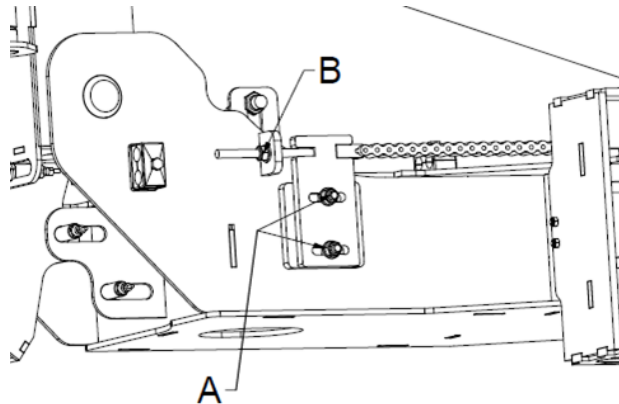

Figure 60 — Adjusting the Shock Absorber Slide Chain Tension
1. Loosen the bolts on the side of the loading arm (A, Figure 60).
2. Tighten the tension bolt (B, Figure 60) until the correct tension is reached.
3. Tighten the bolts (A, Figure 60).